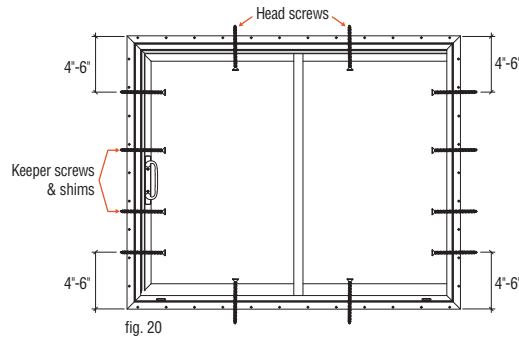

fig. 20
- d. In the holes drilled previously (**fig. 20**), using #8 x 2" corrosion resistant Pan head screws, start fastening the door at either side jamb near the head and then go to the opposite side jamb towards the sill and install that screw. Then install a screw at the other side jamb near the head and the opposite side jamb towards the sill. At this point you should have all four corners secured. Then finish up by installing the center screws in the inactive jamb location assuring that the jambs are plumb and straight. Do not install keeper screws yet, this will be done in a later step. Now fasten the 2 screws at the head, making sure not to bow the head. Check with a straight edge.
For fastener hole locations on the the Slim Line model refer to **fig. 20 & 22**. On the Classic French model refer to **fig. 20 & 23**.
- b. Drill a 3/8" hole through the first layer of vinyl only. Place holes on each side of the fixed panel rail approximately 10" to the right and left of the rail (**See fig. 20**). Use a #8 x 2" corrosion resistant Pan head screw to fasten the sill or if installing over masonry use a fastener appropriate for masonry and drill holes that are appropriate for your fastener. (**fig. 22**)